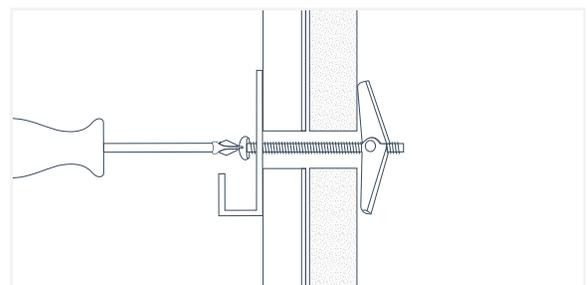

Fig. 53
4. Lightly pull forward on the entire assembly until you feel the wings grip against the back of the Wall&CeilingBoard panel or backer material and then proceed to tighten the bolt until the assembly is tight to the wall (Fig. 53).